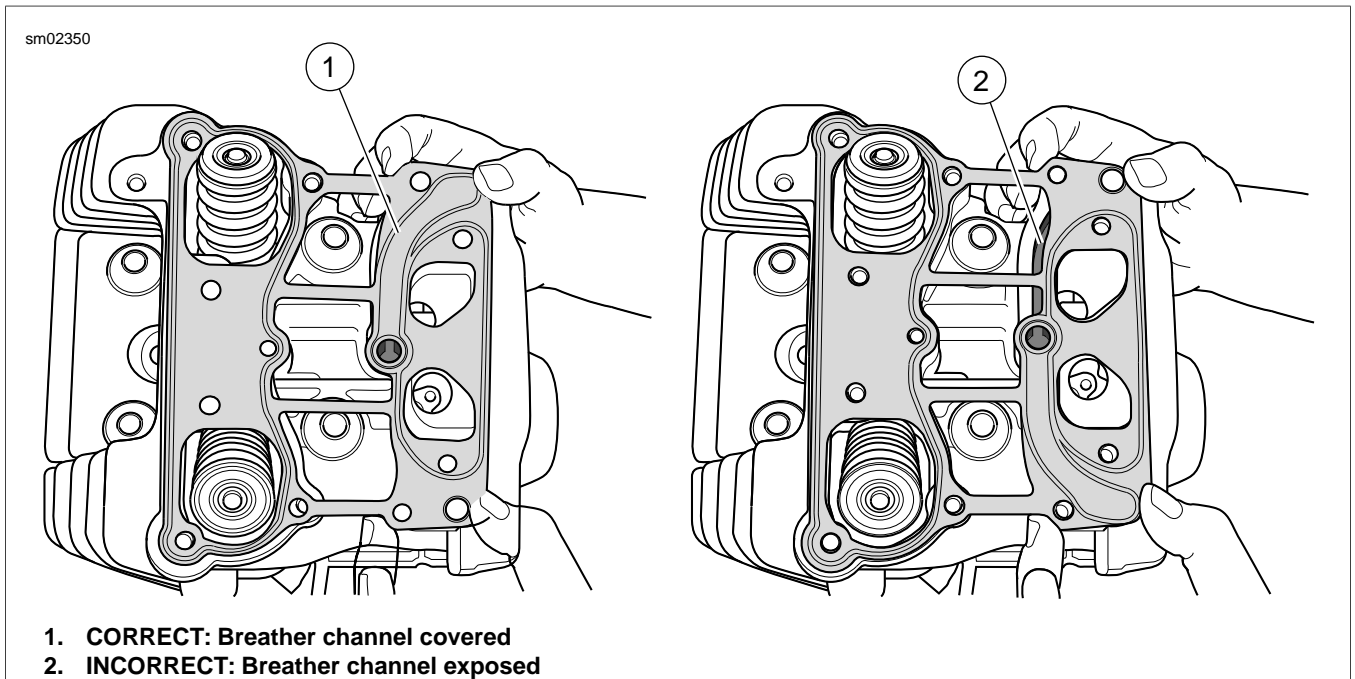

Figure 3-37. Install Rocker Housing Gasket (Rear Cylinder Shown)
6. See Figure 3-37. Install a **new** rocker housing gasket on the cylinder head. Verify that the rocker housing gasket covers the breather channel.